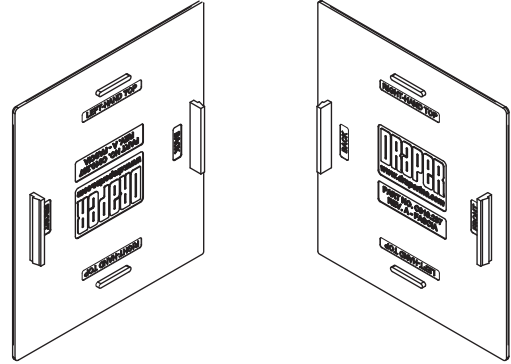

Figure 4
- ① Mark wall, jamb or ceiling for placement of mounting endcaps.
- ② Drill small starter hole (if necessary) in mounting surface.
- ③ For endcaps, snap end covers into place (see Fig. 4).